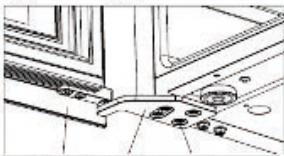

Figure 5
- Install the right upper hinge ③ and screw tight the M5\*16 screws ②.[Figure 5]